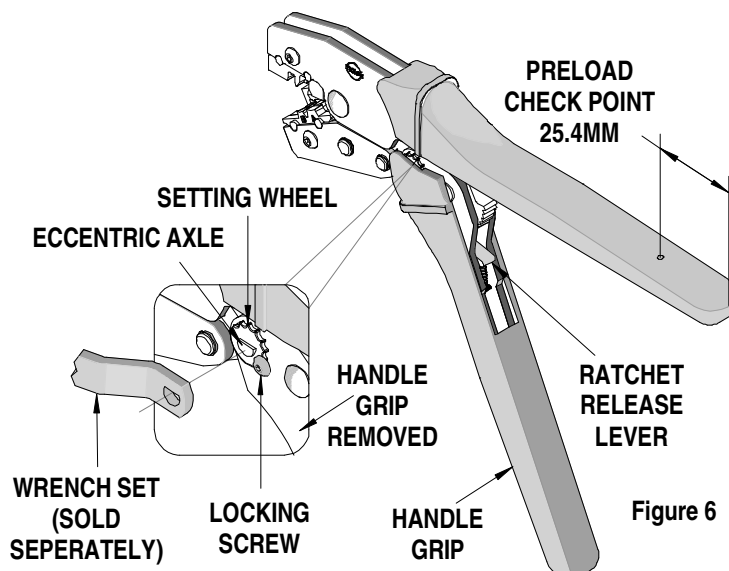

Figure 6
3. Make certain all pins; pivot points and bearing surfaces are protected with a thin coat of high quality machine oil. Do not oil excessively. The tool was engineered for durability but like any fine piece of equipment it needs cleaning and lubrication for a maximum service life of trouble free crimping. Use light oil, such as 30 weight automotive oil, at the oil points. Every 5,000 crimps, or 3 months, to significantly enhance the tool life. See Figure 6.
Should this tool ever become stuck or jammed in a partially closed position, **Do Not force the handles open or closed.** The tool will open easily by pressing the ratchet release lever. See Figure 6.
How to Adjust Tool Preload (See Figure 6)